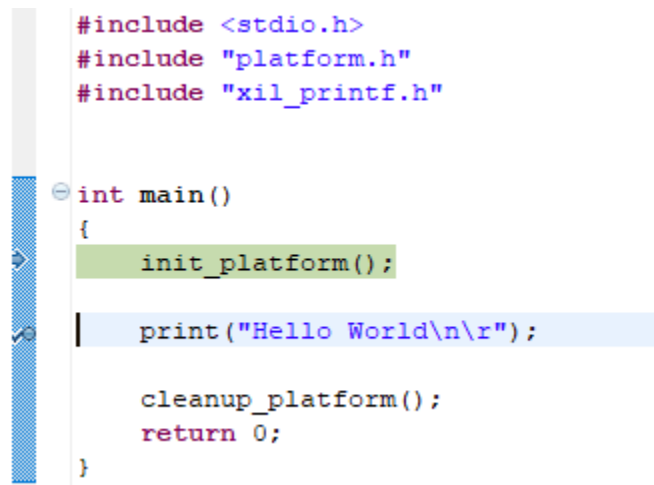

Figure 36: Adding a break point.
2. Double-click to the left of Line 57, which adds a break point on that line. (Figure 36)